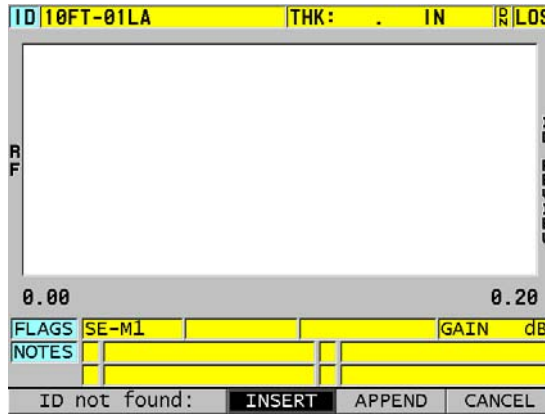

Figure 11-29 The message when the edited ID is not in the database
6. When the edited ID is not in the database, the help text bar message shown in Figure 11-29 on page 201 appears, select **INSERT** to insert the new ID before the active ID.